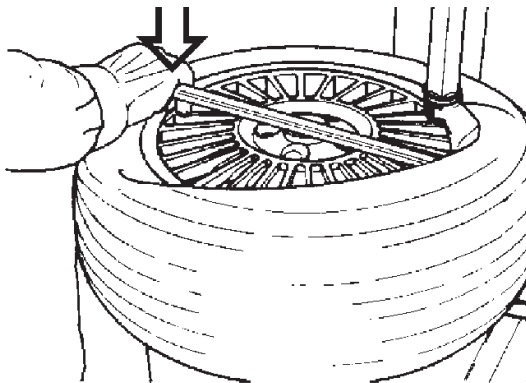

Fig. 4.1-6
F. Insert the mount/demount tool between the bead and the mount/demount head. Pry the bead onto the mount/demount head using the mount/demount head as the leverage point. To make this operation easier, insure that the bead of the tire, 180° across from the mount/demount head, is in the drop center of the wheel. Push the tire into the drop center with your hand or bead depressor tool if necessary. It is suggested that the mount/demount tool be removed after lifting the bead onto the mount/demount head (Fig. 4.1-6), however, you may remove the tool after the bead has been removed.